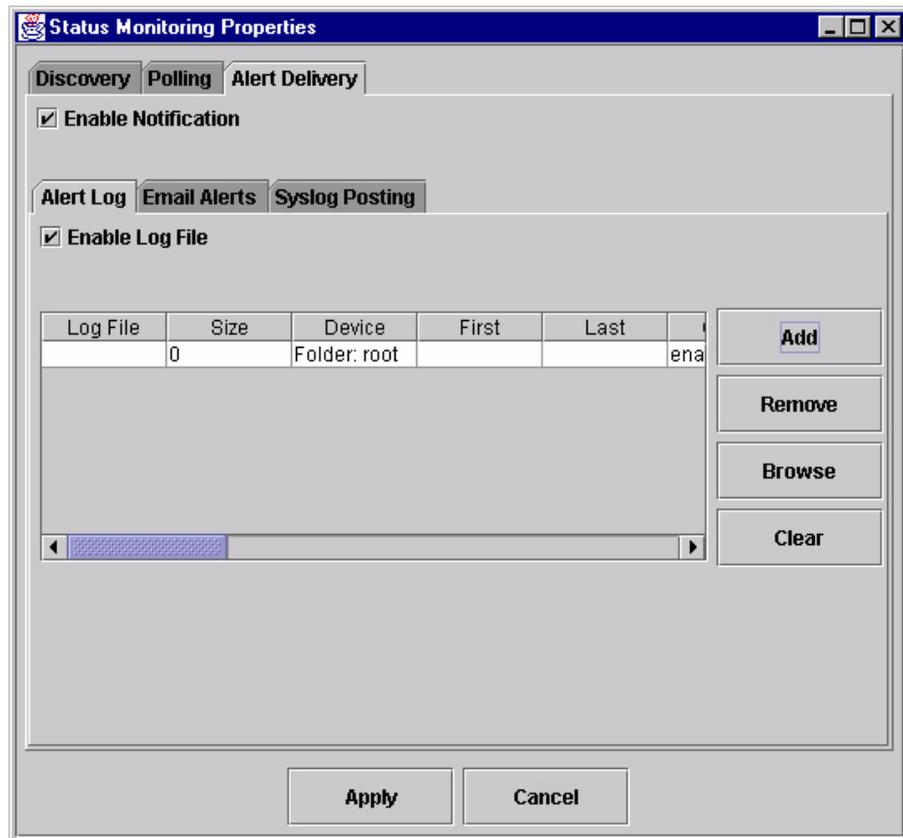

Figure 22. Status Monitoring Properties: Alert Delivery – Alert Log Tab
1. **Alert Log:** Allows the PMU to log alerts to a file located in the PMU directory. To log alerts, check the **Enable Log File** check box, then click **Add** (see Figure 22). A task item adds to the log list. In the task item, specify the following as applicable, then click **Apply**.